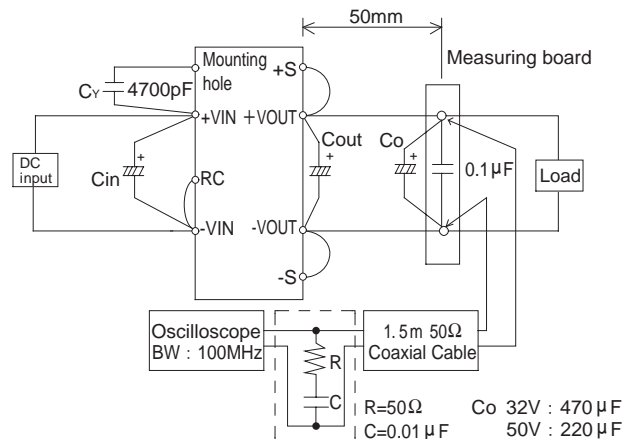

Fig.3.4 Method of Measuring Output Ripple and Ripple Noise
■The specified ripple and ripple noise are measured by the method introduced in Fig. 3.4.